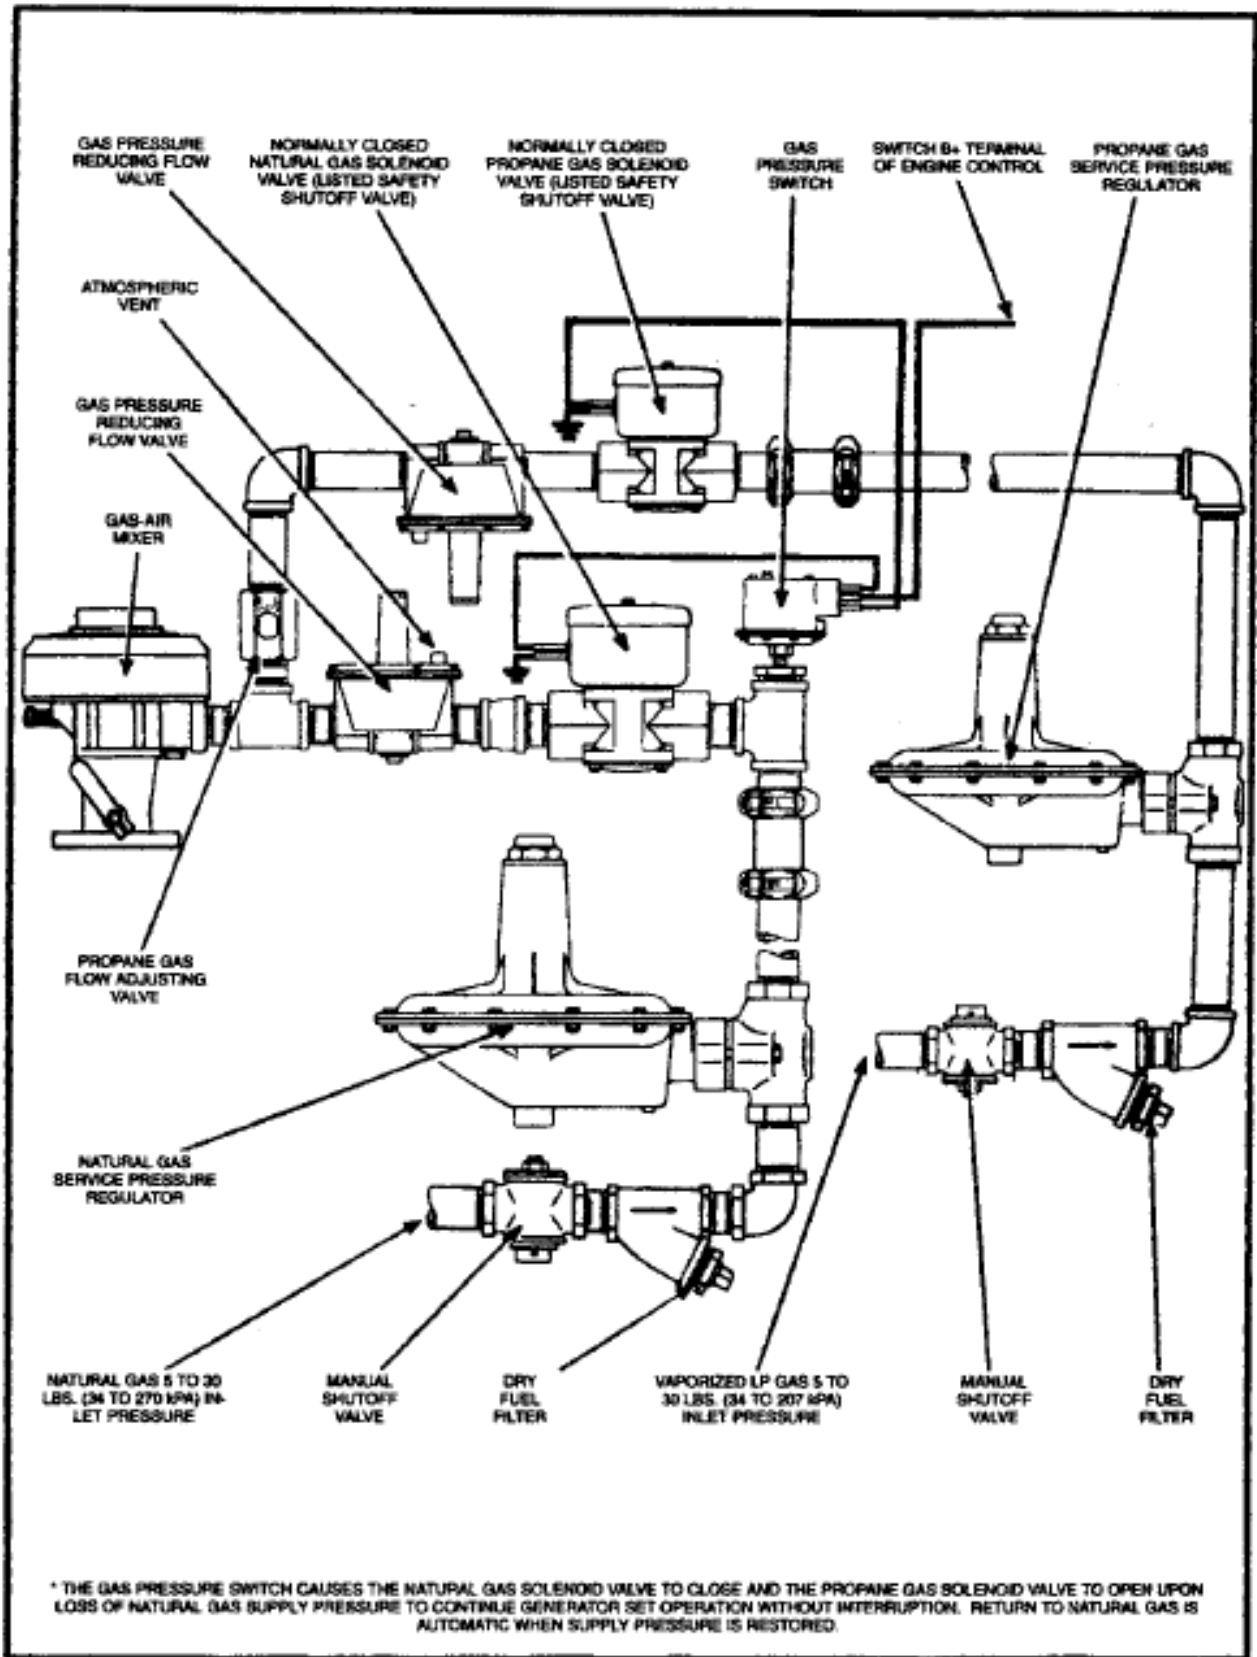

FIGURE 34. TYPICAL GASEOUS FUEL SYSTEM
Figure 34 illustrates the typical gas line components in an automatic-transfer, dual-fuel system (natural gas and LPG). It is also representative of single fuel systems and the natural gas or LPG fuel components used when the alternate fuel is gasoline. When natural gas or LPG is used in combination with gasoline, the gas-air mixer is mounted on the air horn of the gasoline carburetor. Not shown is the LPG vaporizer supplied with **GeneratorJoe** generator sets equipped for liquid withdrawal of LPG (engine-mounted on outdoor sets only). The service pressure regulator(s), dry gas filter(s) and manual shutoff valve(s) are typically provided by the installer.
- A dry fuel filter should be installed in each line as shown in Figure 34 to protect the sensitive pressure regulating components and orifices downstream from harmful foreign substances carried along in the gas stream (rust, scale, etc.).